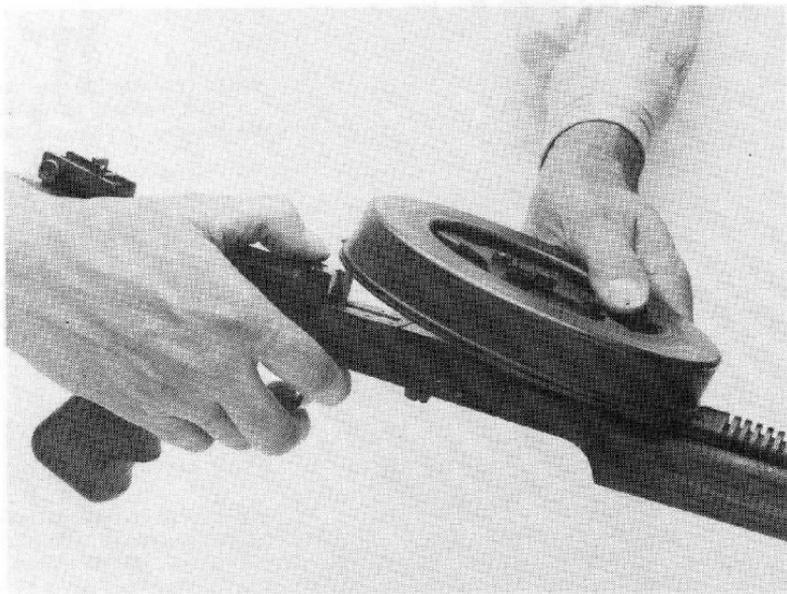

Figure 2
- a. Before disassembling the American 180, make sure that the weapon is CLEAR. Pull back on the magazine catch (figure 2) and remove the magazine. Inspect the feed block and chamber to ensure no ammunition is present in either. Allow the bolt to go forward by squeezing on the trigger. (Note: To pull back [retract] the bolt, pull back on the bolt handle to its rear-most position until it stops, then manually return it forward).